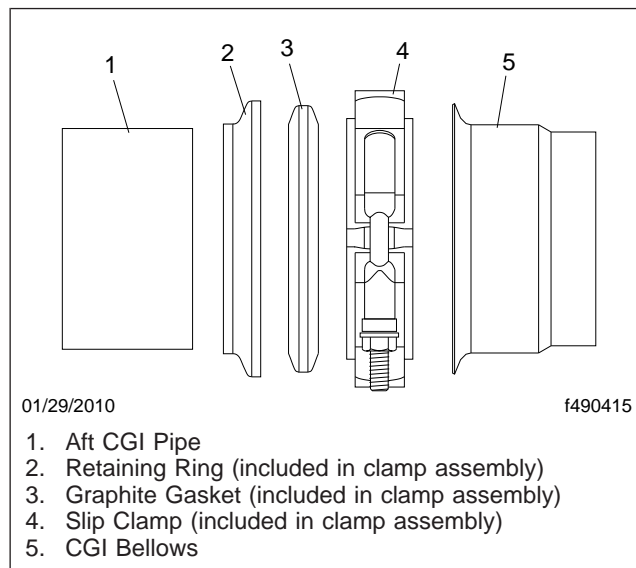

Fig. 4, Aft Facing Slip Clamp Installation
11. Slide the slip clamp assembly, with the retaining ring and graphite gasket ring, on the aft CGI pipe. See Fig. 4 for proper installation.